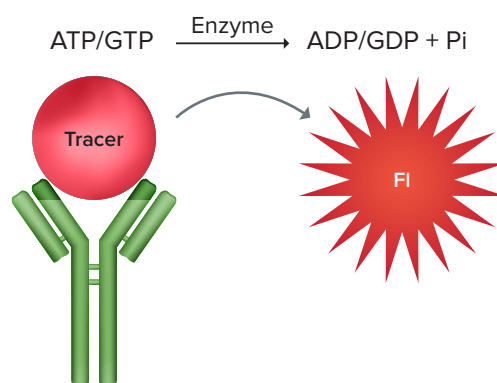

Figure 1. Transcreener® FI Assay principle.
The Transcreener® FI Assays are single-step, competitive immunoassays for direct detection of nucleotides with a red fluorescence intensity (FI) readout. The reagents for all of the assays are a red tracer bound to a highly-specific monoclonal antibody-quencher conjugate. Nucleotide diphosphate produced by the target enzyme displaces the tracer from the antibody-quencher conjugate, resulting in an increase in fluorescence intensity (Figure 1). The use of a red tracer minimizes interference from fluorescent compounds and light scattering. The Transcreener FI Assays are designed specifically for HTS with a single-addition, mix-and-read format.